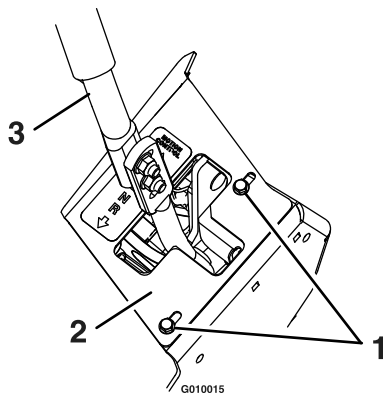

Figure 36
1. Loosen the screws on a cover plate (see Figure 36).